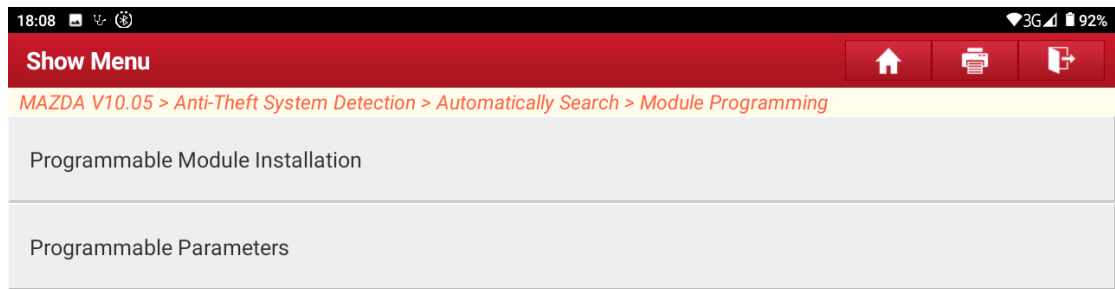

Figure B7
5. Choose [Programmable Module Installation]. See Figure B7.